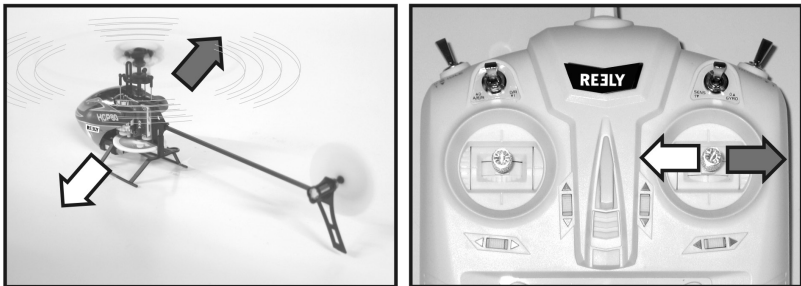

Figure 13
The roll function allows you to move your model helicopter sideways to the right and to the left (see figure 13). Use the right control stick for control (also see figure 1, item 4).